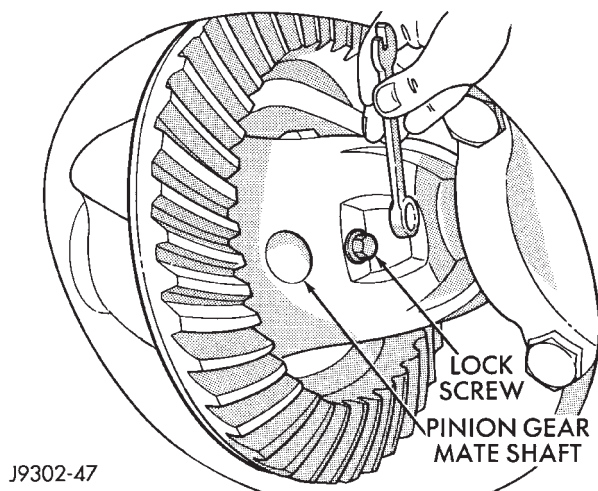

Fig. 11 Mate Shaft Lock Screw
(1) Raise and support the vehicle.
(2) Remove the wheel and tire.
(3) Remove the brake drum.
(4) Clean all the foreign material from housing cover area.
(5) Loosen the housing cover bolts. Drain the lubricant from the housing and the axle shaft tubes. Remove the housing cover.
(6) Rotate the differential case so that the pinion mate gear shaft lock screw is accessible. Remove the lock screw and the pinion mate gear shaft from the case (Fig. 11).